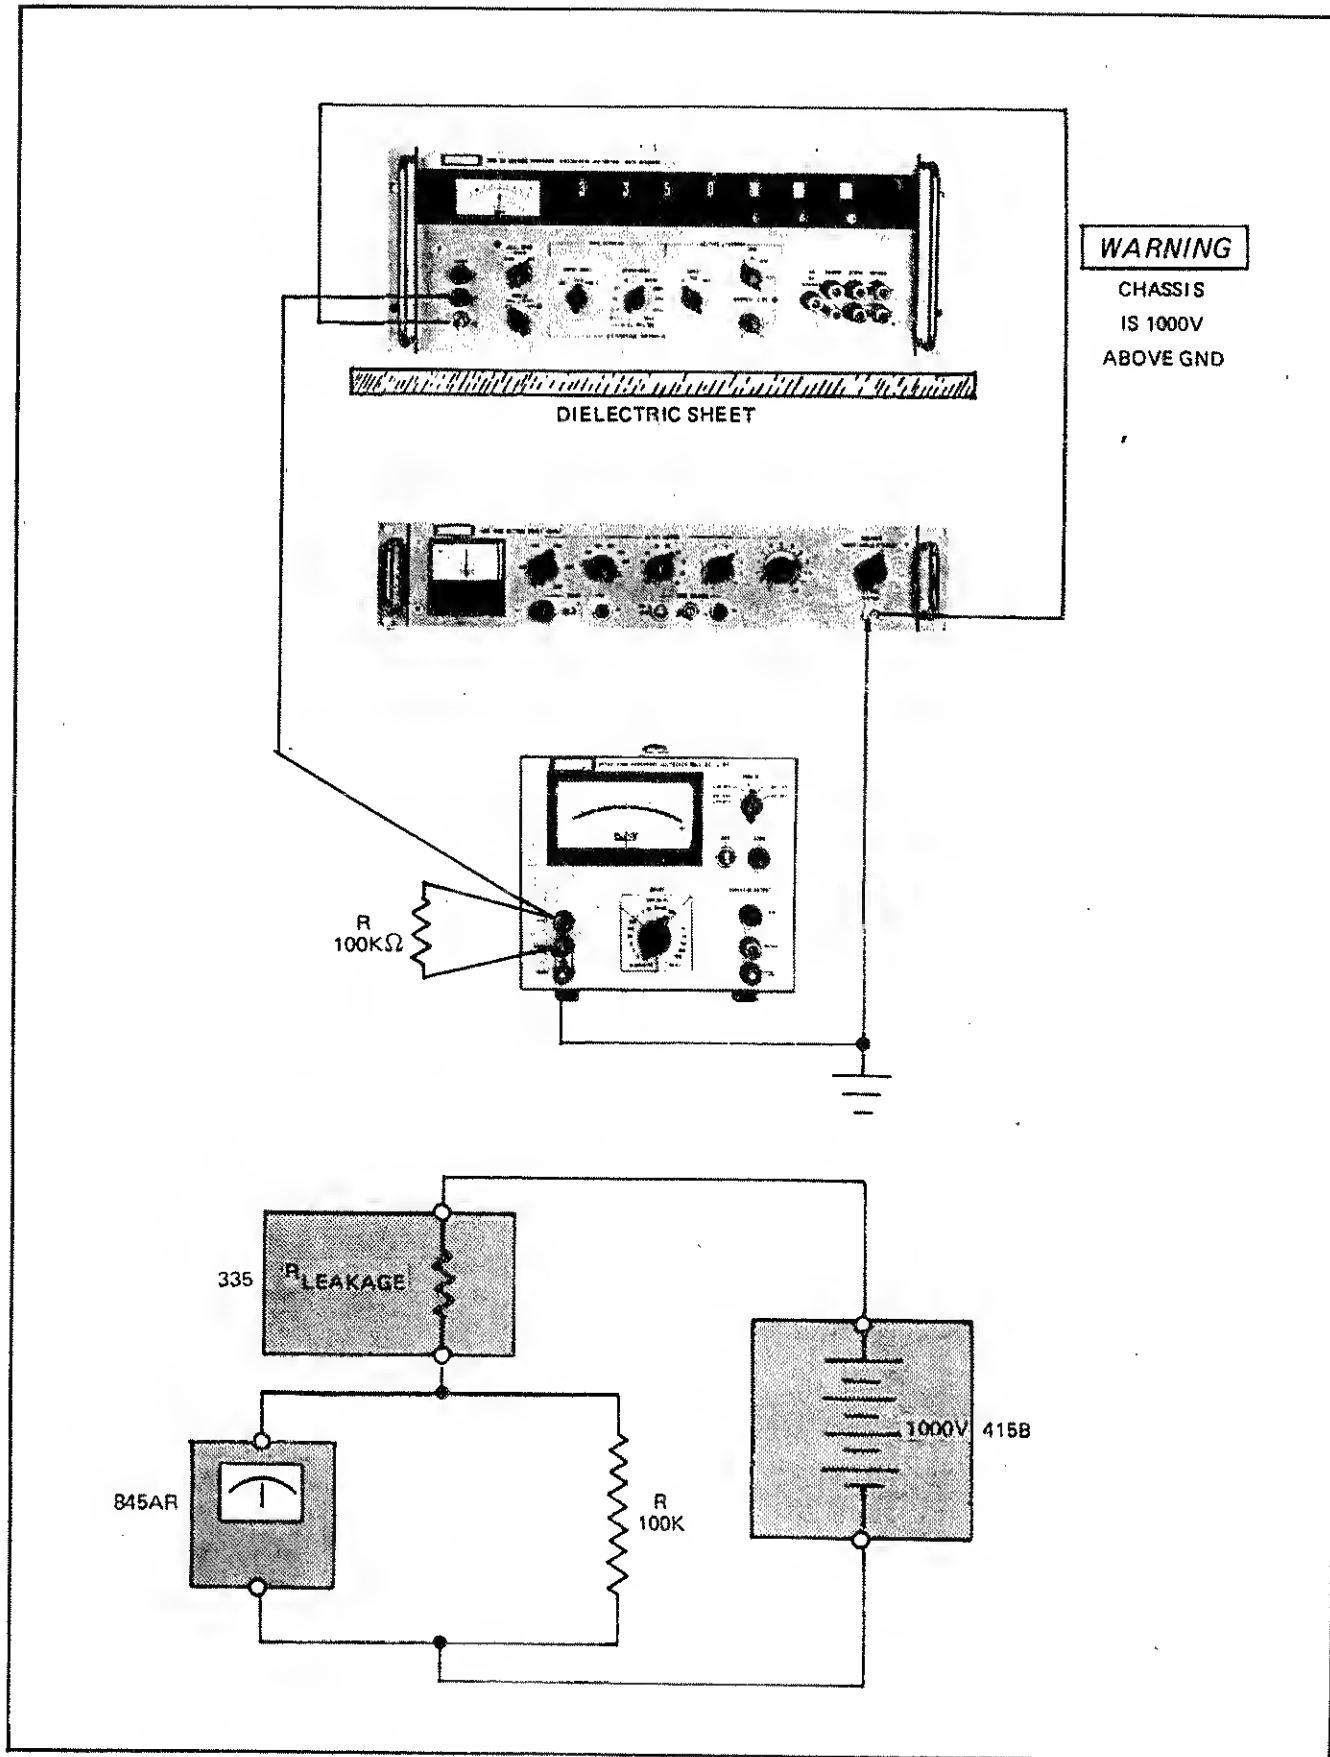

Figure 4-5. LEAKAGE RESISTANCE TEST CONNECTIONS
- a. Disconnect the Model 335D from the power line and connect to the Models 415B and 845AR, as illustrated in Figure 4-5, with teflon coated leads.